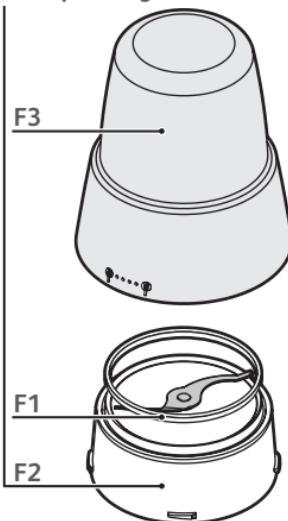

fig.1
- Moisten the gasket (**c2**) and position it correctly on the blade unit (**c1**): the 3 folds of the gasket must be visible once it is in place. If it is positioned in the other direction, you will not be able to lock the blade unit on the jug. (**figure 1**).